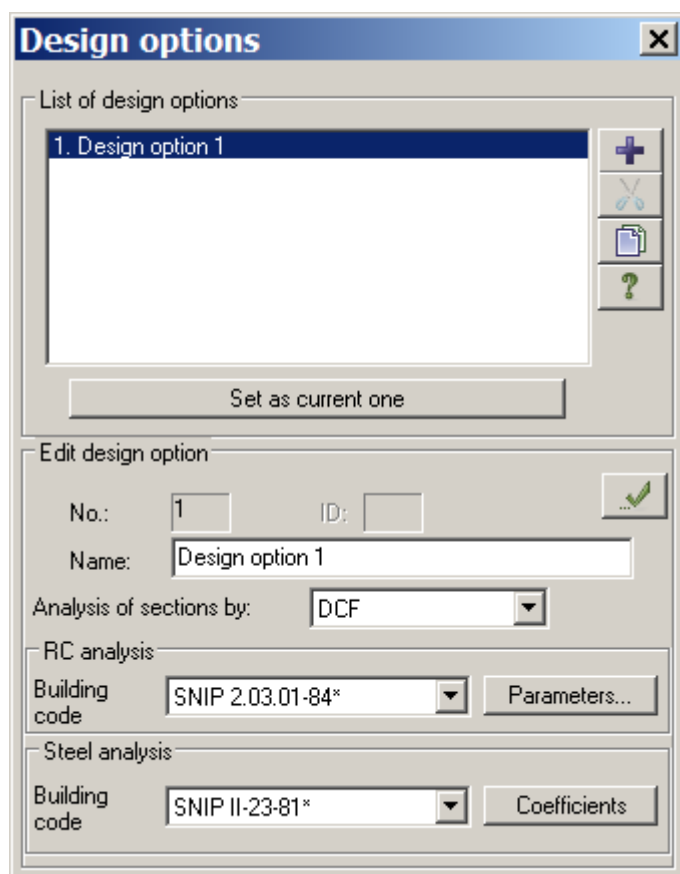

Figure 1.8 **Design options** dialog box
- ⇒ In the **Design options** dialog box (see Fig.1.8), define parameters for the first design option: